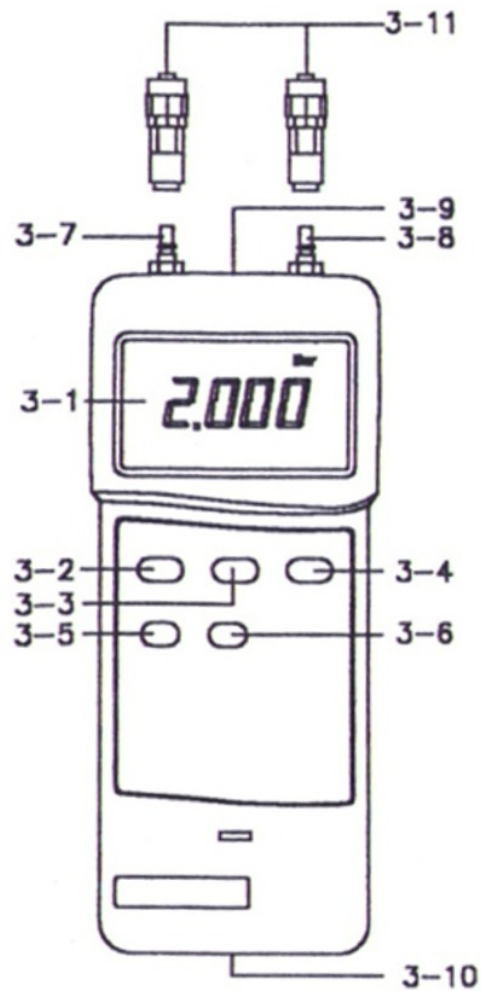

Fig. 1
- 1) Power on the meter by pressing the " Power Off/On Button " (3-2, Fig. 1).
- 2) Select the desired temperature units (mbar, psi, Kg/cm², mm Hg, inch Hg, meter H₂O, inch H₂O, Atmosphere) by pushing the " Unit Button " (3-6, Fig. 1).
Adjust the display reading to zero value by pushing the " Zero Button " (3-4, Fig. 1)
- 4) Install the measuring pipe to " Plug/quick coupler " (3-11, Fig. 1).
Connecting the pipe along the " Plug " (3-11, Fig. 1) to
- a. " P1 input socket " (3-7, Fig. 1) only
- b. " P2 input socket " (3-8, Fig. 1) only
- * During the measurement, pressing the " Hold Button " (3-3, Fig. 1) will freeze the measured value & the LCD will show " HOLD " symbol.
- * The DATA RECORD function displays the maximum and minimum readings. To start the DATA RECORD function, press the " MAX./MIN. Button " (3–5, Fig. 1) once. " REC " symbol will appear on the LCD display.
- (a) Press the " MAX./MIN. Button " (3–5, Fig. 1) once, the " Max " symbol along with the maximum value will appear on the display.
To de-activate this feature, Select the memory record function during measurement, by pressing the " MAX./MIN. Button " (3-5, Fig. 1).
The instrument features an RS232 output via 3.5 mm Terminal (3-9, Fig. 1).